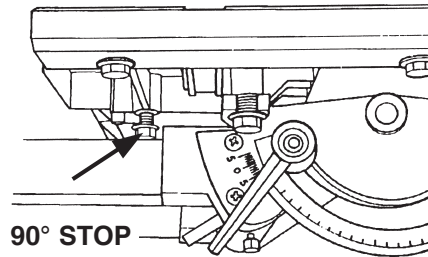

Figure 11
10. Both 90° Stops should contact the top of the Table Support Tubes, as in Figure 11. If they don't, use a 1/2" Wrench to adjust the Stops.